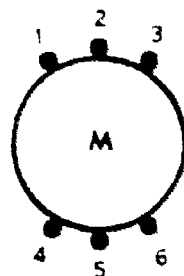

Figure 23
1. Using the information and symbols available in figure 23, connect the motor to the power supply using the across-the-line motor starter and thermostat to control the operation of the motor.